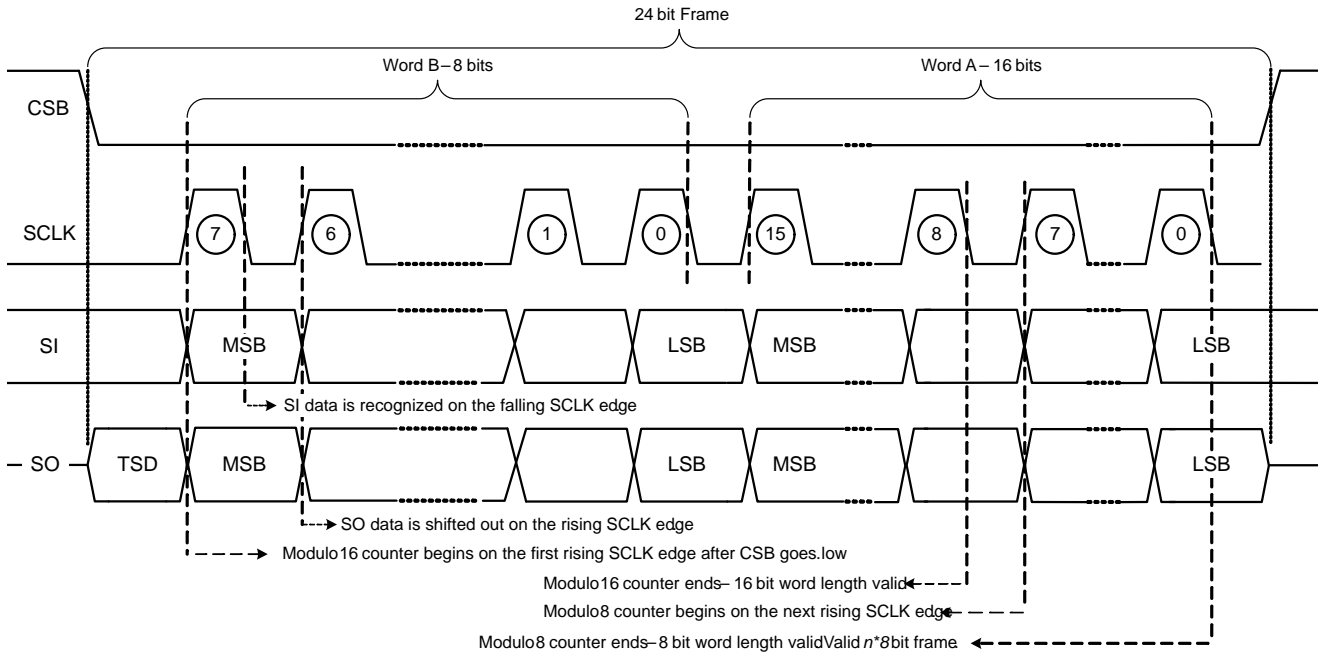

Figure 18. SPI Data Recognition and Frame Detection
Daisy chain communications between multiple of 8-bit SPI compatible IC's is possible by connection of the serial output pin (SO) to the input of the sequential IC (SI). The clock phase and clock polarity respect to the data must be the same for all the devices on the chain. Figure 17 illustrates the hardware configuration of NCV7718 daisy chained with a *n*\*8 bit (ie *n* = 2; 16 bit) SPI device. The progression of data from the MCU through the sequential devices is also shown. Strict adherence to the frame format illustrated in Figure 18 is required for the proper serial daisy chain operations.